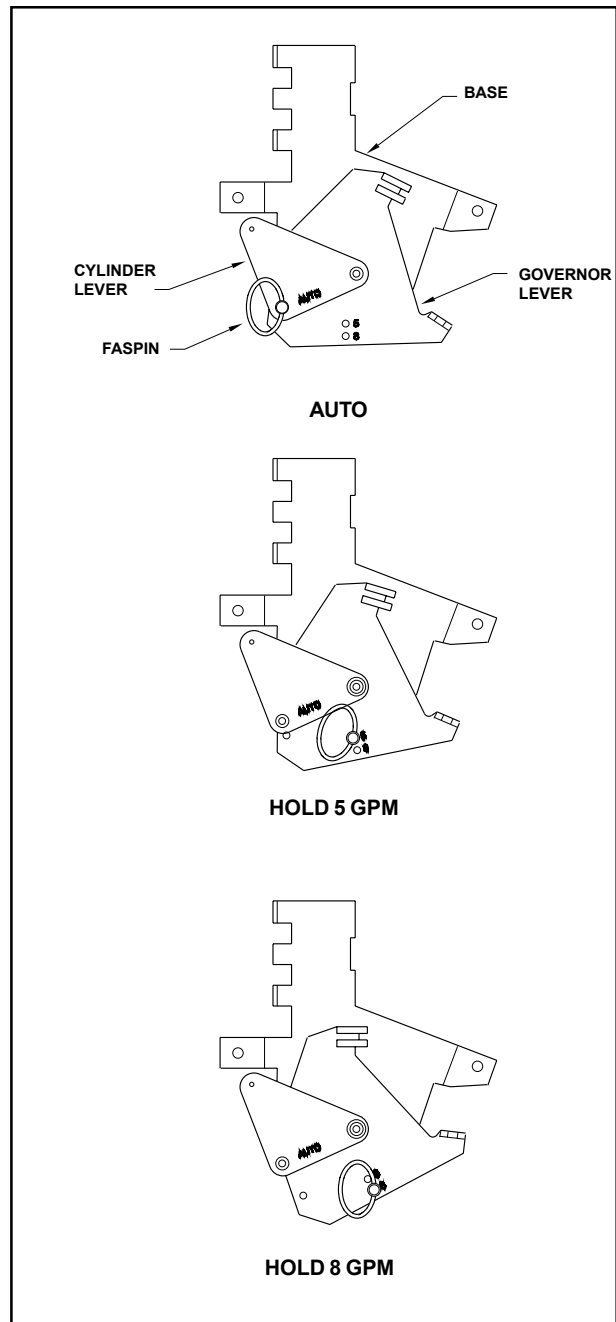

Figure 2. Throttle Control Settings
6. THROTTLE CONTROL (See Figure 2)
2. Select the "AUTO" throttle operating mode by positioning the governor lever to the cylinder lever and inserting the faspin as shown in figure 2.
If it is necessary to remove the valve assembly, the fuel tank must first be removed in order to gain access to the hose fittings and wiring located on the back of the panel. Otherwise, many components of the panel and valve can be serviced by removing the grille (13, fig. 2).